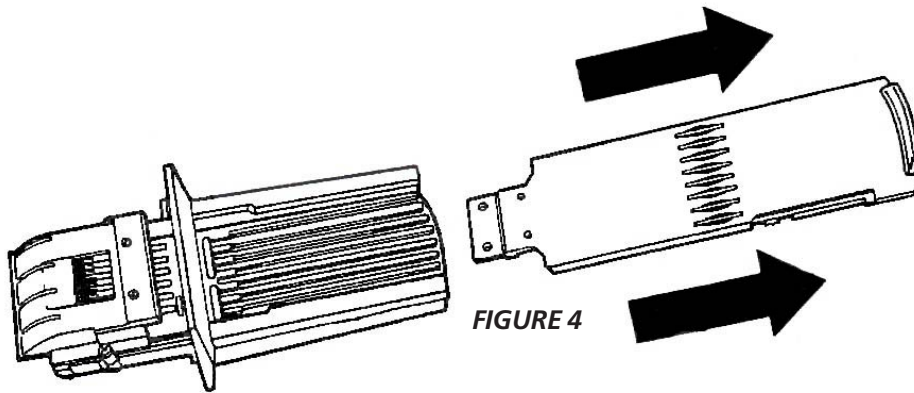

FIGURE 4
**(2) Slide Stop Screws**
- Pull coin slide out of coin chute (see FIGURE 4).